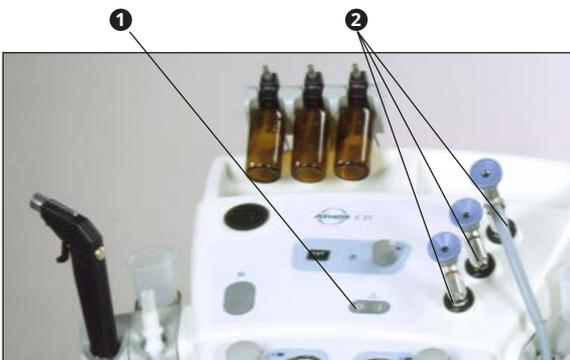

Fig. 26. Endoscope heating
- Endoscope heating is switched on when the main switch (①, fig. 26) is activated.